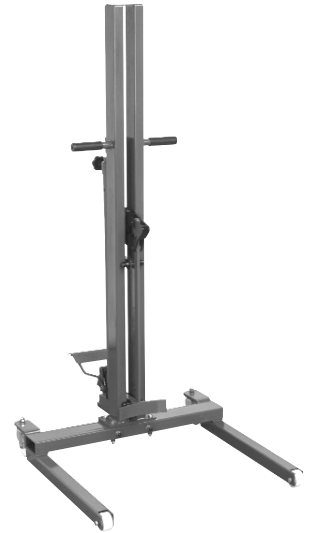

Fig. 1
- 3.2.1 Locate the foot pedal (27) in the base (1) using links (26), washers (28), snap pins (29) and pins (30). Refer to Fig. 1.